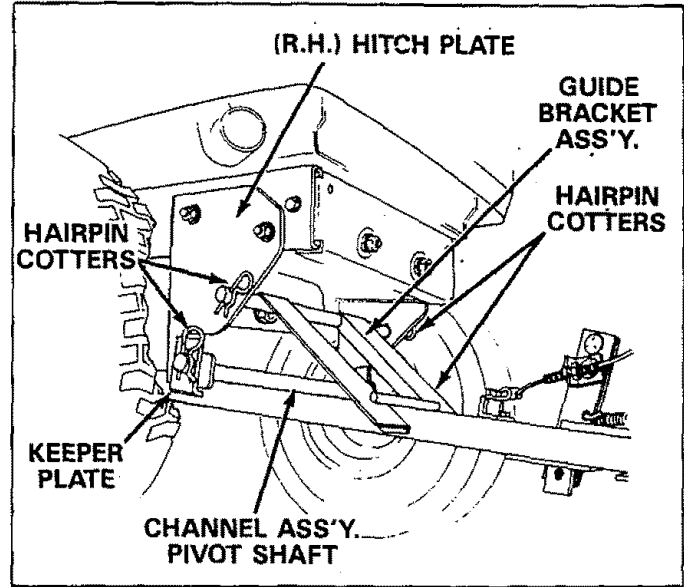

FIGURE 31
3. Refer to figure 31 below and remove hairpin cotters from ends of guide bracket assembly and remove guide bracket assembly.
4. Refer to figure 31 above and remove hairpin cotters from ends of channel assembly pivot shaft and remove keeper plates. Lift the channel assembly pivot shaft out of the hitch plates and lower channel assembly to the ground.
Hitch plates do not require removal for re-assembly of mower deck. See figure 31.